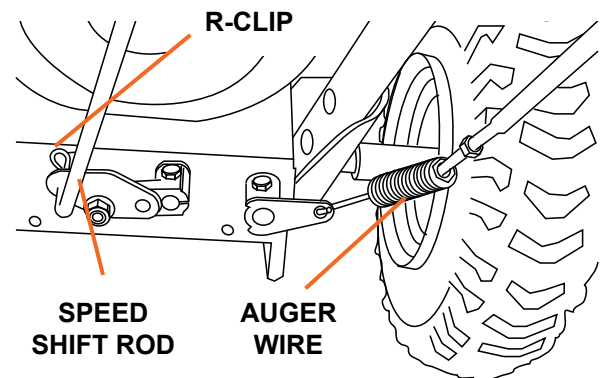

Figure 3
3. Attach the auger wire on the right side of the snow blower (see Figure 3). The spring mechanism should allow the wire to stretch for connection. Loosen the nut on the threaded screw with pliers and unthread slightly to extend the spring wire. After connecting the wire rethread the screw as much as possible and tighten the nut. The wire should be taught when connected. (See Control Wire Adjustment, page 23).
4. Attach the speed shift rod and secure with a r-clip that has been included in the hardware package (see Figure 3).